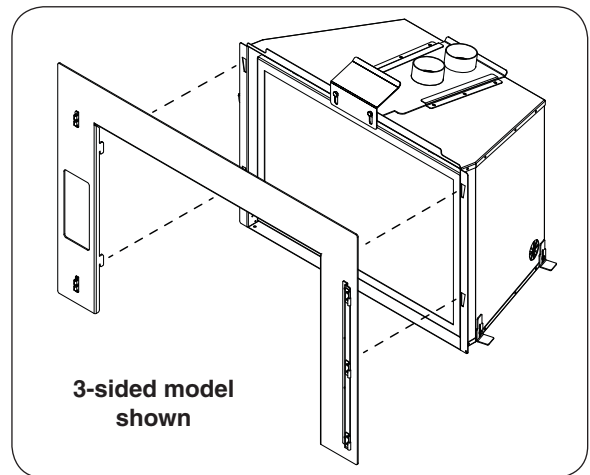

Fig. 30-1 Install surround fascia
2. The rear of the fascia has 4 hooks. Insert the hooks into the four slots found on the front of the unit. Ensure the fascia firmly rests down in place. Wear gloves. See Fig. 30-1.